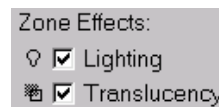

Figure 2-6. Zone Effects options.
2.2.2.3. Zone Effects. In 3D frame mode the check boxes shown in Figure 2-6 appear: Lighting; Translucency. Only shaded and flooded contour surface plot types are affected by Lighting and Translucency.